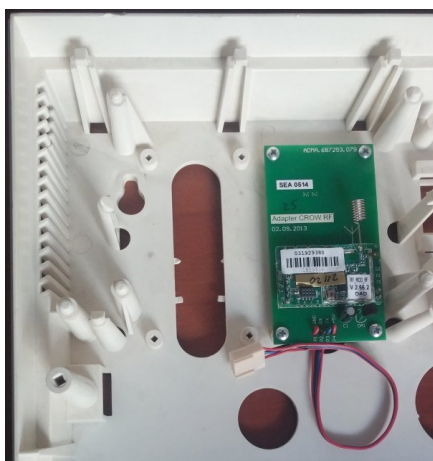

Figure 26. “Crow-Lun-11” adapter in the device housing
- “**CROW-Lun-11**” Adapter – should be installed into the device housing (Figure 26);